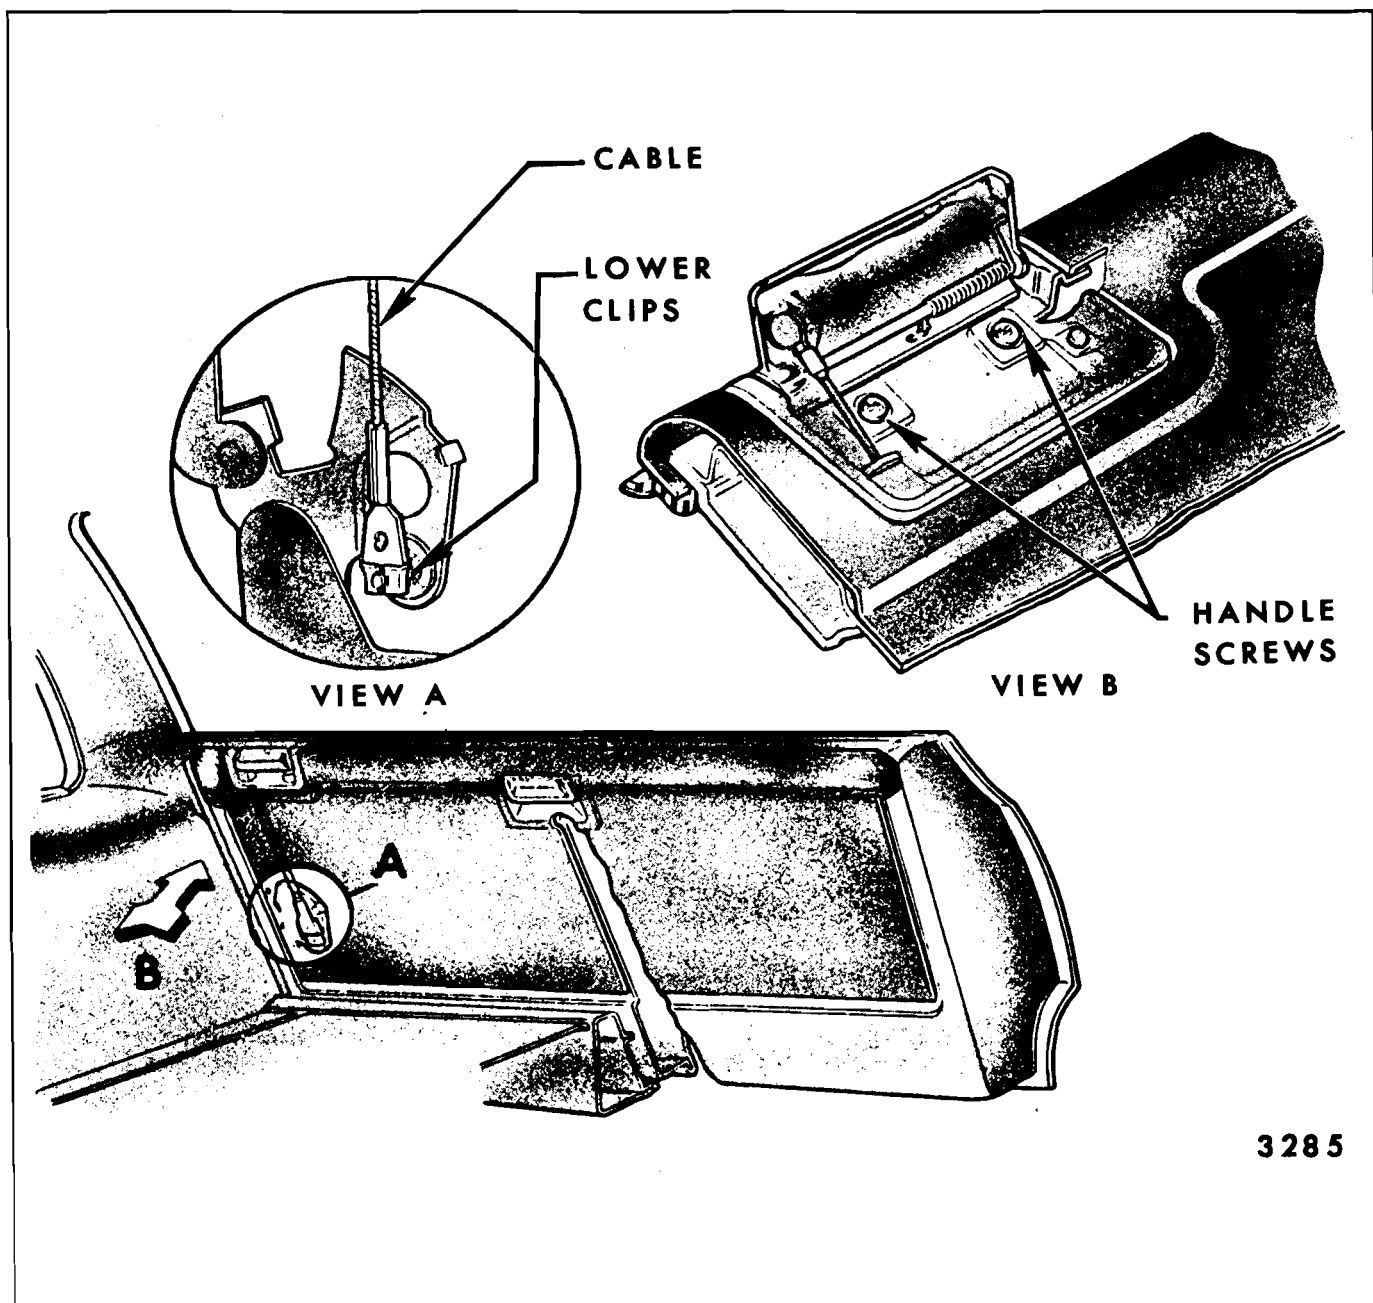

Fig. 9-21—Tail Gate Remote Control Inside Handle - Door Operation
3. Disengage handle cable at upper lock clip (Fig. 9-21).
4. Disengage inside handle cable (Fig. 9-21).